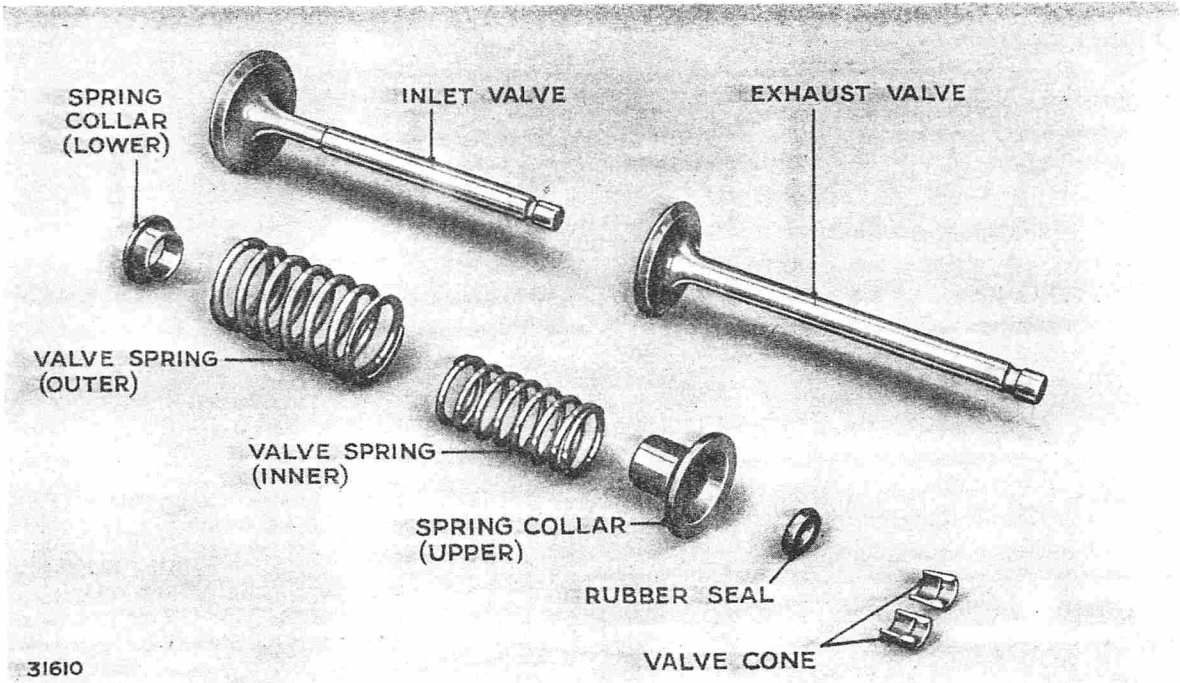
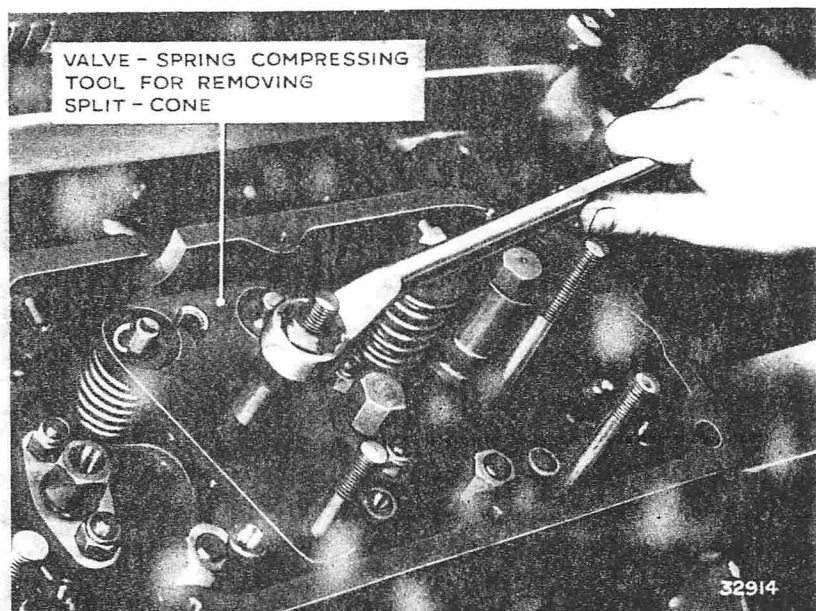

FIG. 10. VALVES AND SPRINGS
FIG. 11. VALVE SPRING COMPRESSING TOOL
2. Extract the split cone (Fig. 11) and remove the valve collar together with the rubber sealing ring and valve springs (Fig. 10).